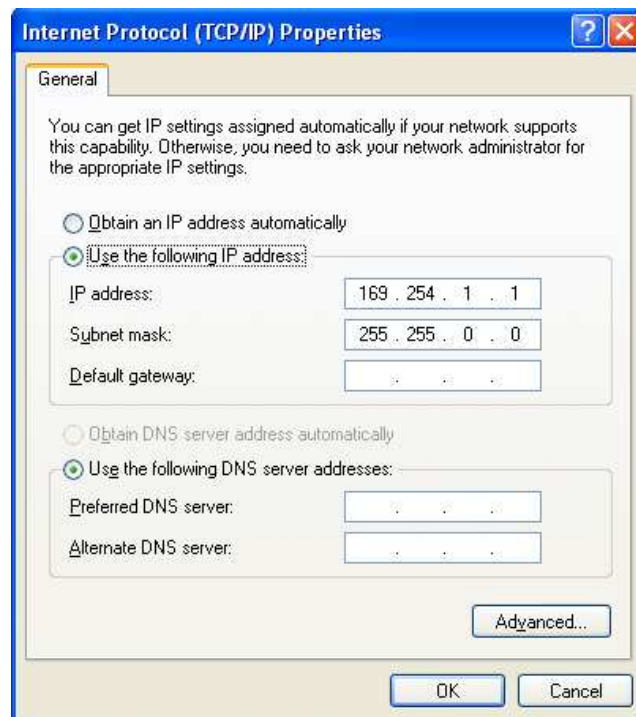

Figure 6. Network card TCP/IP address.
- Select the **Internet Protocol (TCP/IP)** check box and then select **Properties**. See Figure 6. Network card TCP/IP address.. Select the **Use the following IP address** and enter an IP address of **169. 254. x. y**, where **x** and **y** can be any number. Press the TAB key after entering the IP address and the subnet mask will automatically be entered. The subnet mask is **255. 0. 0. 0**. Click **OK** to save changes. Note that if Windows reports a conflict with the above IP address, simply repeat the above steps and change the last digit of the IP address to a different value.